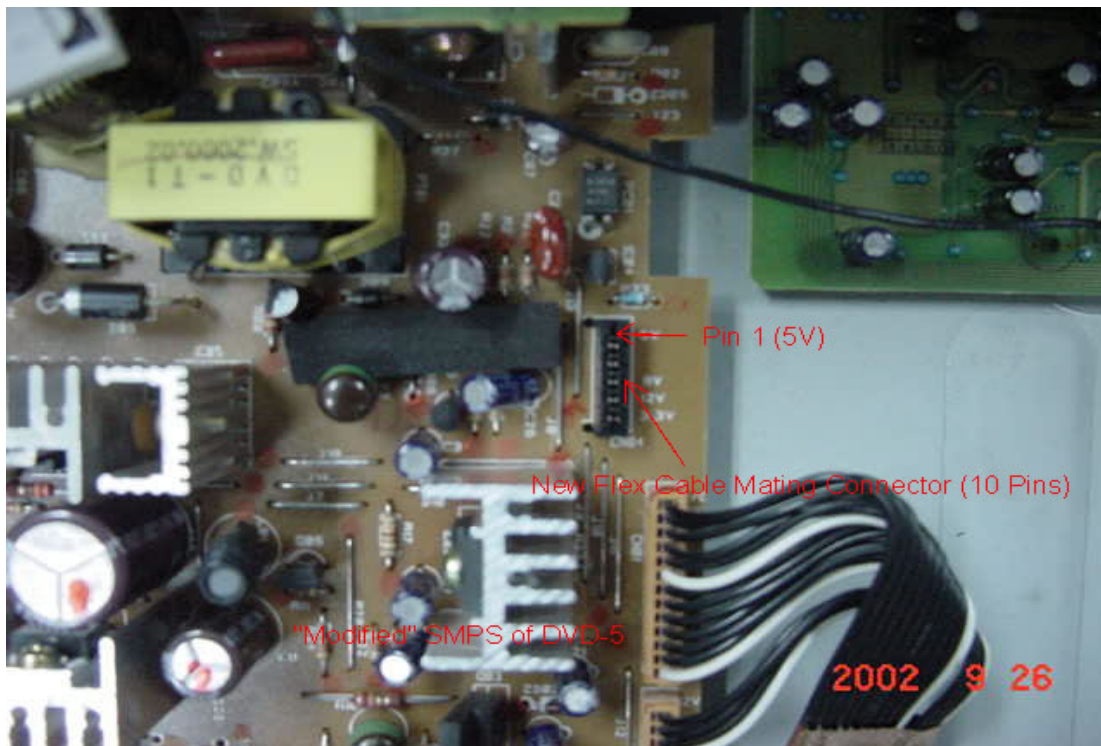

Figure 4. "Modified" DVD5 Power Supply
a) Early Version: Molex Connector should be replaced with 10-Pin FCC connector, part# 55284430 on POWER SUPPLY module. See Figure 4. After replacing original molex connector, connect the loader and power supply with 10 wire - FCC CABLE, part# 55174870. Connect Pin 1 → Pin1 and Pin 10 → Pin 10. Refer to *Figure 4* and *Figure 6*.